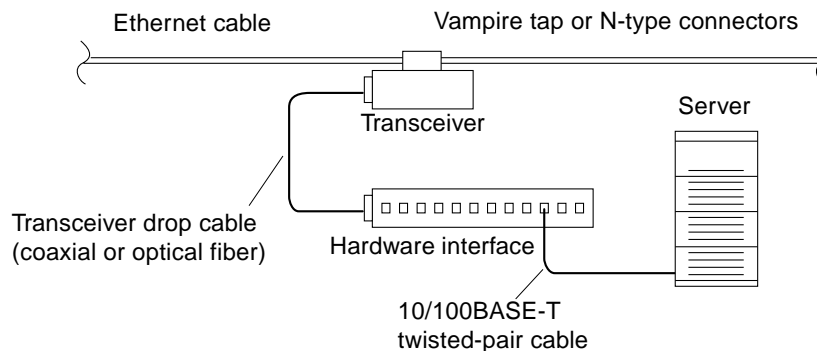

Figure 2-8 Connecting Twisted Pair Ethernet to N-type Coaxial Cable
Figure 2-8 shows a typical arrangement for connecting the system to an Ethernet network.
- If the Ethernet cable lacks N-type connectors at the ends, use a “vampire” tap to connect the cable to the transceiver. See Figure 2-8. To connect the cable to the transceiver, use instructions provided with the vampire tap.
Figure 2-8 shows the elements used in the installation process.